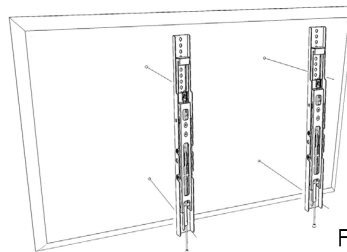

Figure 4
- Spacers (D) are commonly needed on TVs with curved backs or recessed screw inserts. The screw will thread through the appropriate washer (N), spacers, and the arms into the TV.
- Ensure the arms are installed flat side to TV, and are square to each other after all screws have been installed (Figure 4).